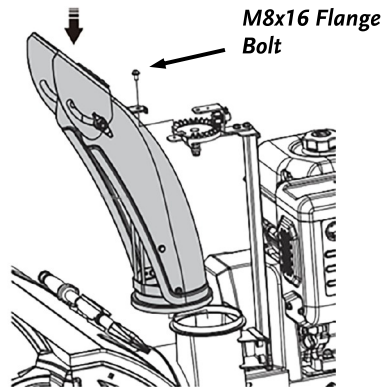

Figure 13
3. Install Deflector Chute and secure with M8x16 Flange Bolt (**Figure 13**).